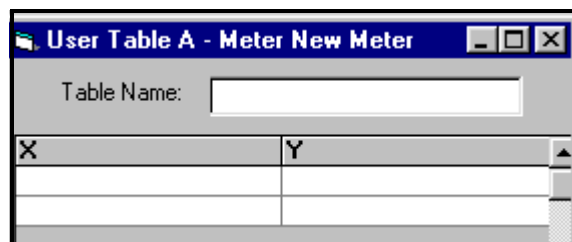

Figure 4-8: Blank User Table
2. Click on “*User Tables*,” and then double-click on the desired table. The right side of the screen appears similar to Figure 4-8 below.